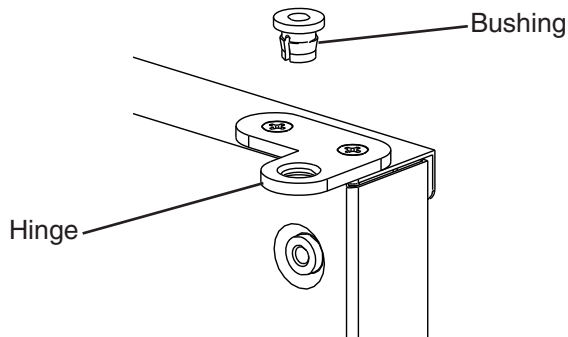

Fig. 9
- 7) Remove the bushings from hinge (C1) and hinge (C2) (the hinges attached to the door). See Fig. 9.